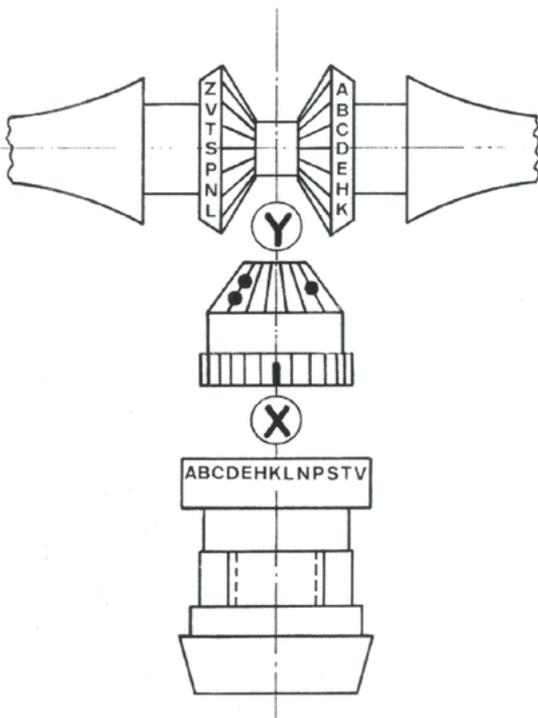

Figure 3
C) On the bottom of the central gear (6) there is a groove on the bottom of one of the teeth, this represents the “X” on the chart in figure 3. Place the tooth with the groove into the corresponding lettered gear on the hub (1).
D) Next engage the gear on the blades with those of the central gear as shown in figure 3. When engaging the gears make sure that the correct letters on the blades are inserted into the corresponding “●” and “● ●” in the depth of the teeth of the central cone gear.
- B. Remove a section of the thrust washer ring as shown on Figure 3. Enough so when in place you can access the zinc screw holes.